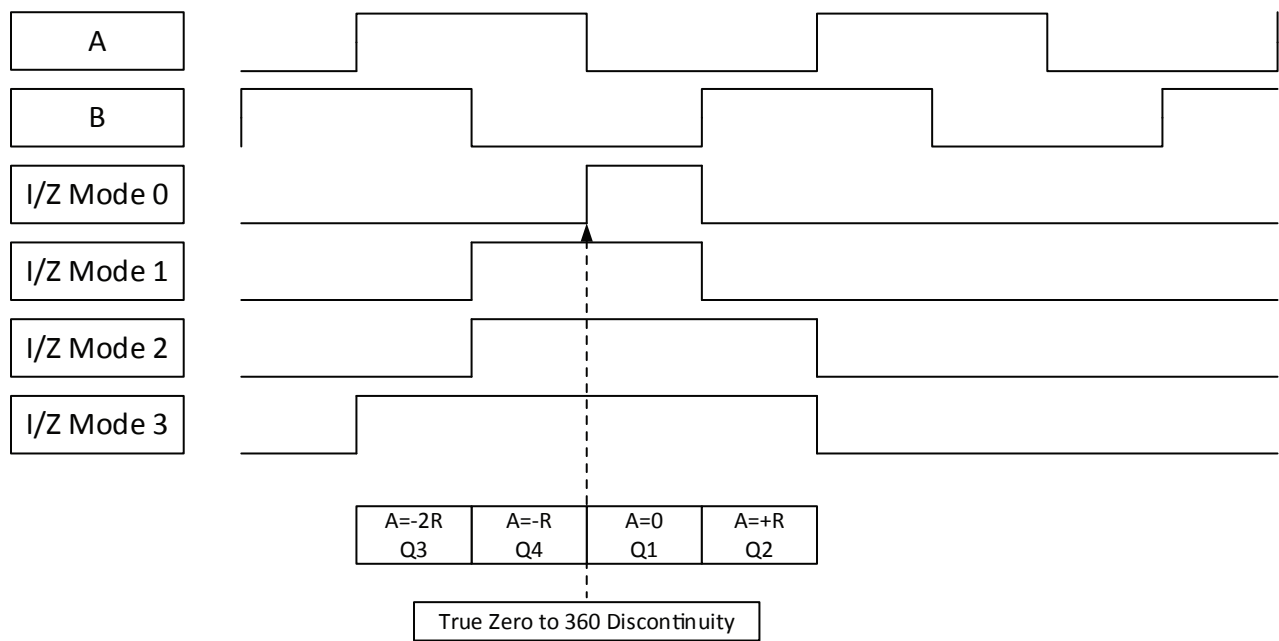

Figure 9: Index Pulse
The index pulse I (or Z in some descriptions) marks the absolute zero (0) position of the encoder. Under rotation, this allows the receiver to synchronize to a known mechanical/magnetic position, then use the incremental A/B signals to keep track of the absolute position. To support a range of ABI receivers, the I pulse has four widths, defined in Figure 9.